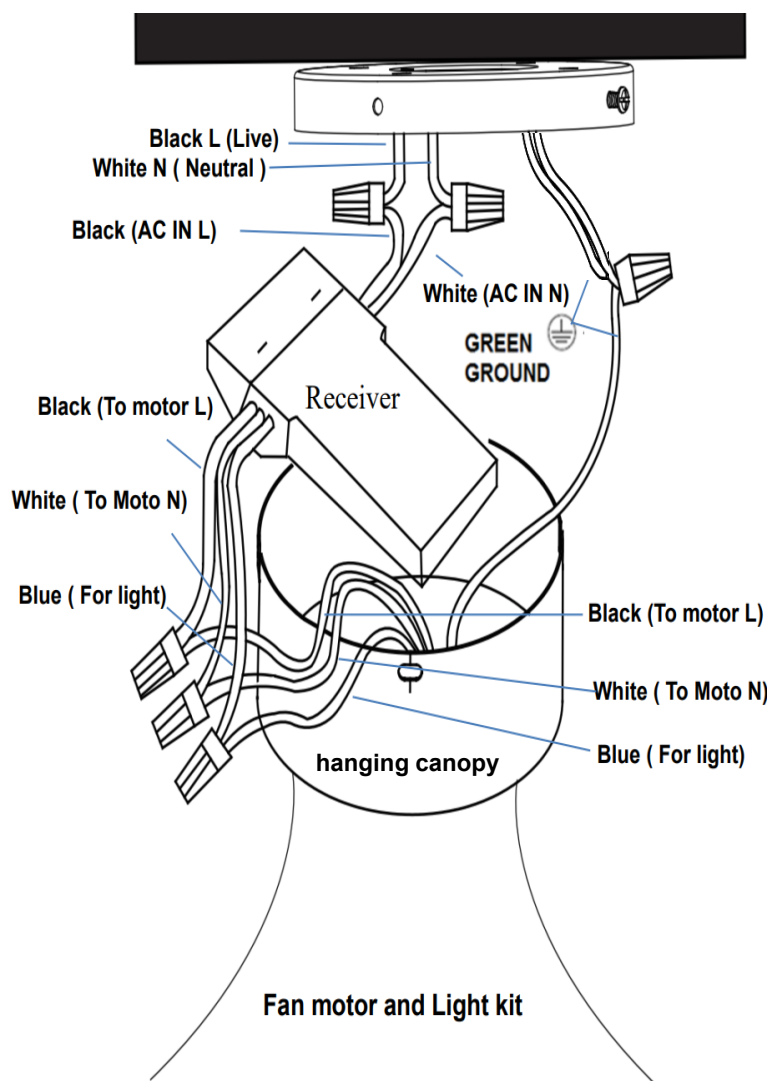

Fig. 7
Complete the electrical wiring using the diagram below (**Figure. 7**).
Follow the steps below to connect the fan to your household wiring. Use the wire connecting nuts supplied with your fan. Secure the connectors with electrical tape. Make sure there are no loose wire strands or connections. **Fig. 7**
1. Connect the household live supply wire (black) to receiver input wire (black, AC IN L) as shown in **Fig. 7**